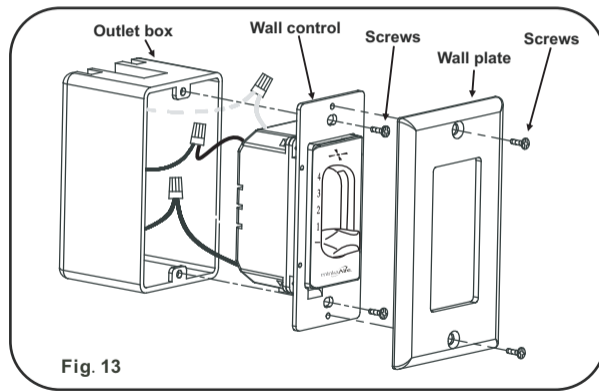

Fig. 13
1. (Fig. 13) Carefully tuck the wire connections inside the outlet box. Secure the wall control with the two screws provided.
Step 3. Align the canopy up to ceiling and over the loose screw. Place the canopy into key hole and rotate canopy clockwise. (Figure 13)
Step 5. Place the canopy cover to the canopy and rotate canopy cover clockwise until it is locked into right position. (Figure 13)